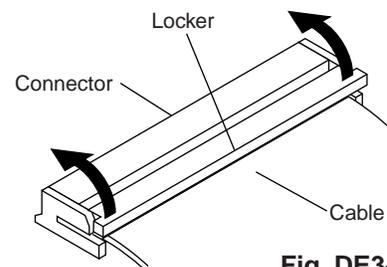

Fig. DE3-1
1. Lift up the locker of connector as shown in Fig. DE3-1 and then pull out cable.